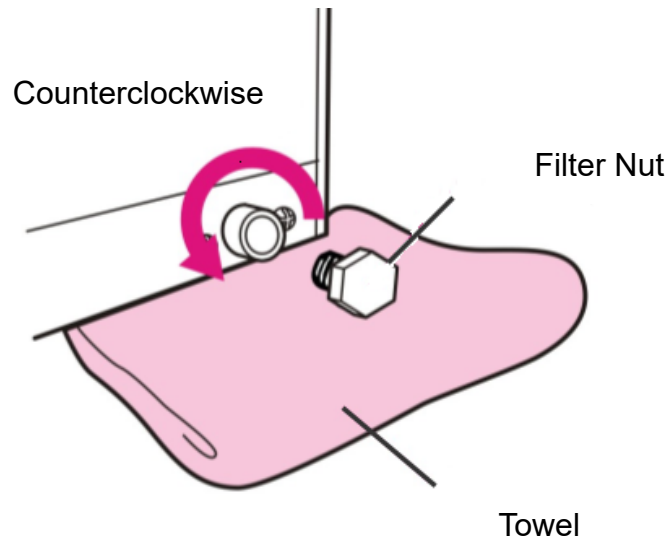
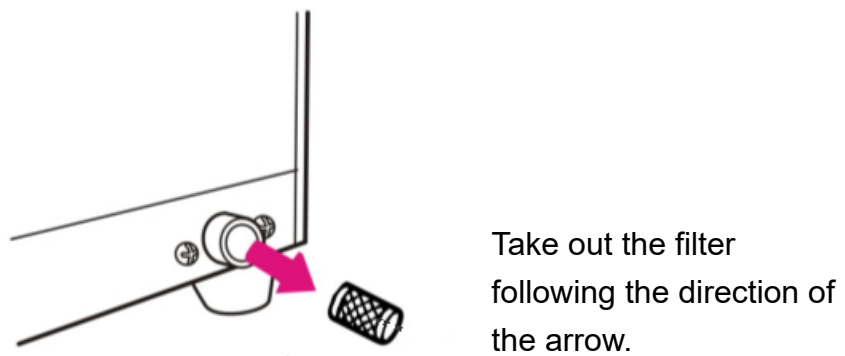

Figure 44
Figure 45
- Use a wrench to unscrew the filter nut counterclockwise as Figure 44 & Figure 45.